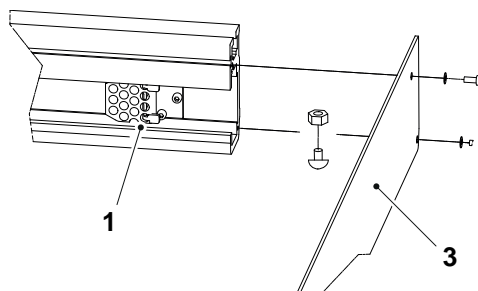

Fig. 5-21
1. Mount the adjustable end stops. See Fig. 5-21
3. Mount the end plates. See Fig. 5-21